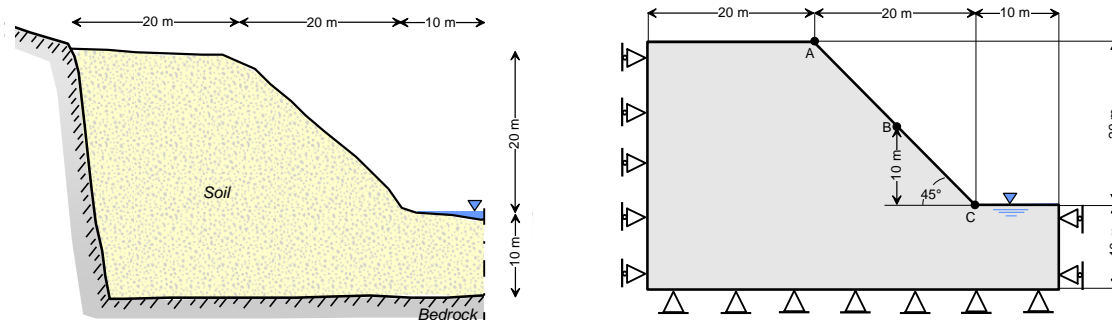

Figure 1: Case to study (a) and problem layout (b).
The goal of this exercise is to perform soil slope stability analyses using a finite element code in which a coupled hydro-mechanical model is implemented taking into account the partial saturation of the soil. In particular, it is required to study the stability of the slope reported in Figure 1.a for the following conditions:
The problem can be outlined as shown in Figure 1.b, where a simplified geometry is assumed and kinematic boundary conditions are defined. As initial condition, a water table coinciding with the slope toe can be assumed. The entire slope domain can be thought as composed of a Mohr-Coulomb material with the properties indicated in Table 1.
3. calculate the evolution of pore pressure and saturation degree with time within the domain and plot the displacements of some relevant points (A, B and C in Figure 1.b) versus time;